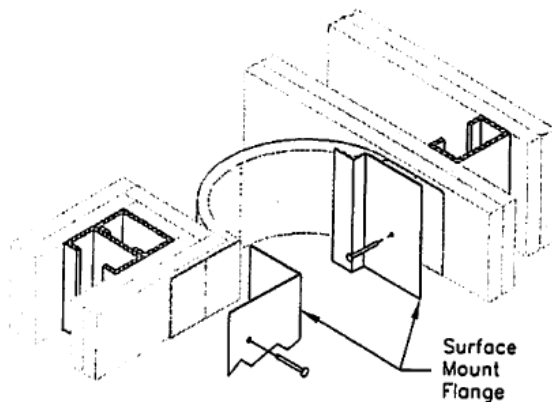

Fig. D3
2. Cut the galvanized flanges to length and drill appropriate size holes with maximum spacing of 18". Install the flanges with appropriate fasteners as shown. (Fig. D3 & E3)